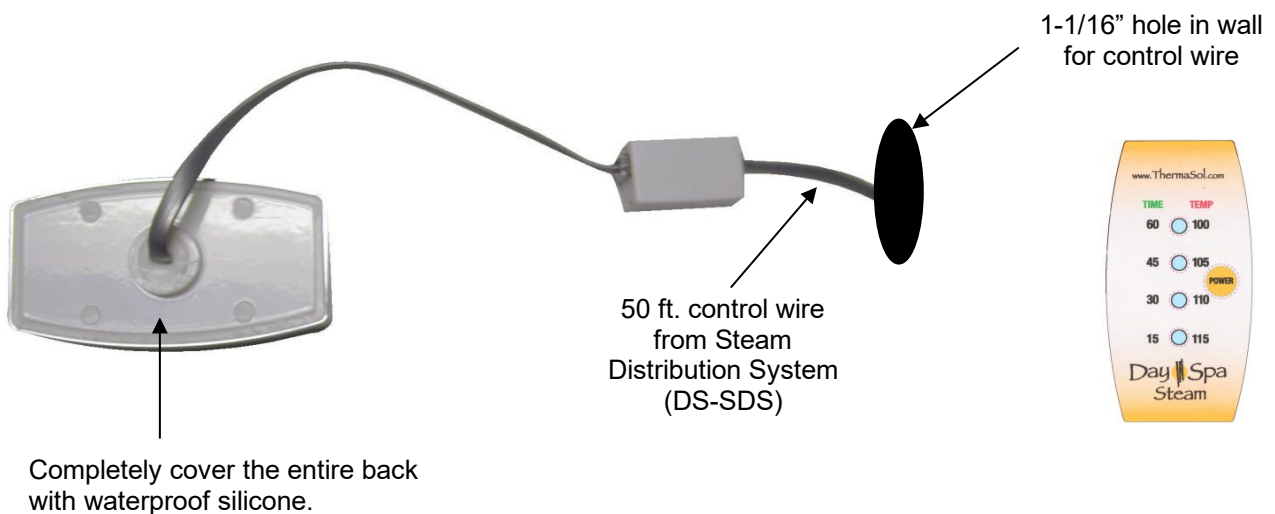

Figure 6
6. Test the touch pad to ensure it is properly connected. If any problems arise, call **THERMASOL-Technical Support (800) 776-0711**.
7. **THESE STEPS MUST BE TAKEN OR YOUR WARRANTY WILL BE VOID.** Coat the entire control back with supplied waterproof silicon. Completely seal the control to the wall so moisture does not get behind it. Place the control on the wall pressing firmly. You may need to tape the control into place until the silicone dries. Be careful not to harm the wall and/or control with the tape. **(Figure 6)**